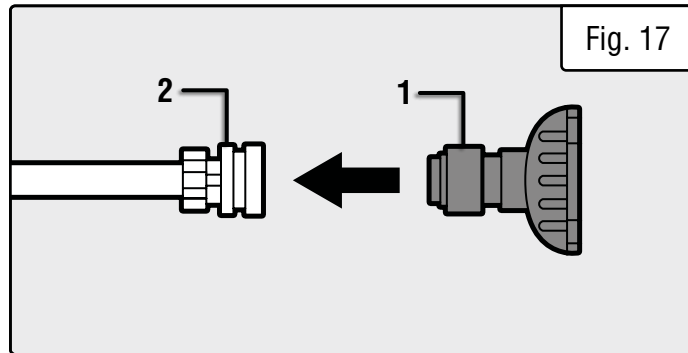

Fig. 17
1. To connect or disconnect the spray tip (Fig. 17 - 1), pull back on the quick-connect collar (Fig. 17 - 2). Insert or remove spray tip then release the collar.